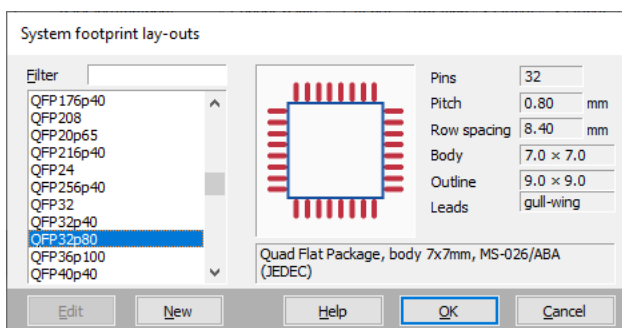

FIGURE 25: Dialog for selecting a normative package name.
- ◇ A click in the ‘Normative name’ column, allows you to choose one of the known lay-outs; see figure 25.
- ◇ From the dialog in figure 25, you can create a new footprint lay-out by selecting the New button. This is covered in the section Creating or modifying a footprint lay-out (on the next page).
In this ‘Filter’ field of the dialog in figure 25, you can filter on prefixes (such as typing ‘tssop’ to limit the list to TSSOP packages), you can in addition filter on pin count, pitch or span. For example, entering ‘pins=32’ limits the list to components with 32 pins. Multiple keywords can be combined; for example, ‘pins=32 gullwing’ filters all packages that have gull-wing pin style and a pin count of 32. Hovering over the ‘Filter’ field shows a tooltip with the full list of supported keywords.
The package names listed in the ‘System footprint lay-outs dialog (see figure 25) is also affected by the choice of the naming convention.